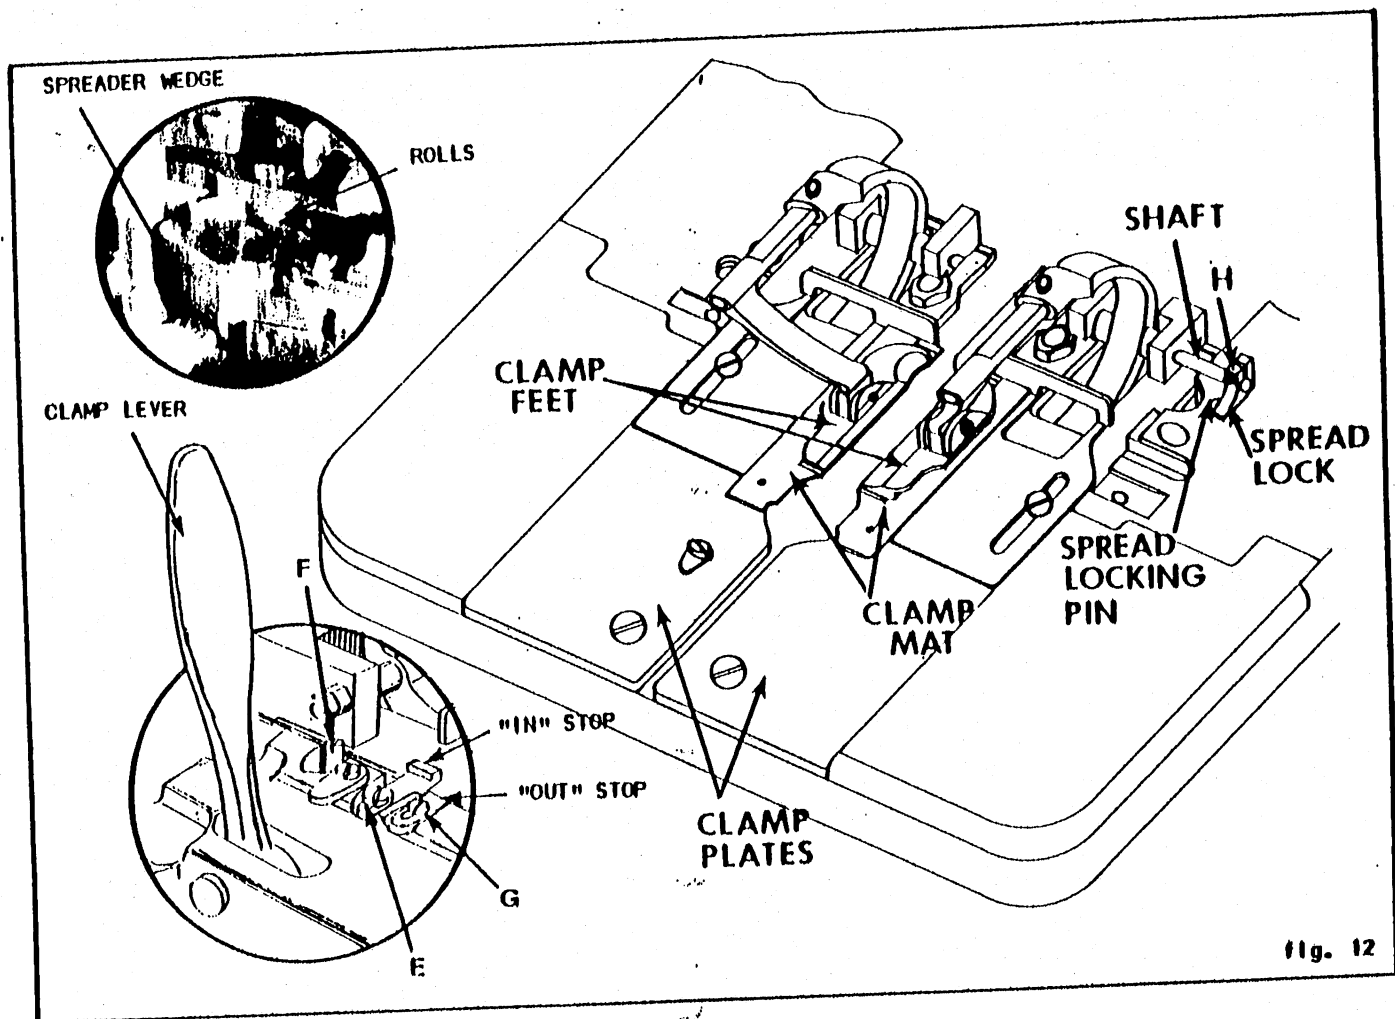

Fig. 12
The 104-200 utilizes automatic compensating clamps with locking clamp spreading so excessive clamping pressure is no longer needed. The proper clamping pressure is achieved when the clamp feet contact the clamp mats in approximately 1/2 the total movement of the clamp lever, Fig. 12. The remaining clamping lever travel activates the automatic compensation feature. To adjust, loosen the large nut on the backside of the stud (B). Loosen nut (C) and turn - screw in for less clamp travel, out for more. Retighten nuts.
With the machine in the maximum spread condition, adjust the spread locks (Fig. 12) against the spread locking pins. Loosen screw (H) and slide locks along the clamp arm shaft. Retighten screw (H). Release the clamps. The spread locks should now be above the spread locking pins, allowing the clamps to return to their center position. To adjust: loosen screw (H) and rotate the spread locks so they clear the tops of the locking pins.